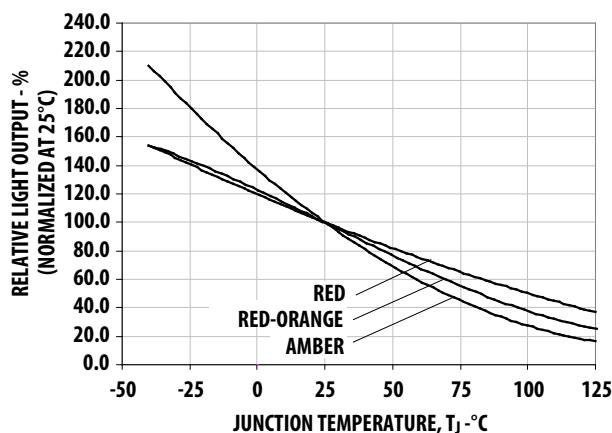
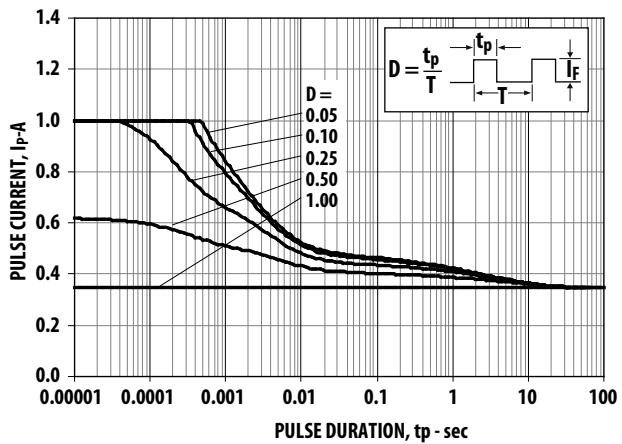

Figure 7. Relative Light Output vs. Junction Temperature
Figure 17. Maximum pulse current vs. ambient temperature.
1. Derate linearly based on Figure 7 for AlInGaP and Figure 17 for InGaN.